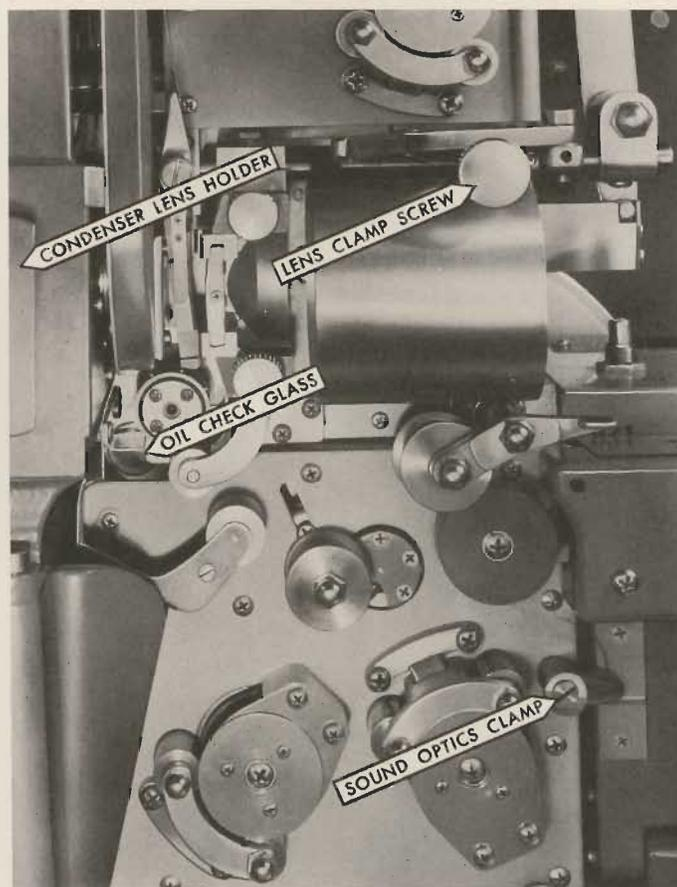
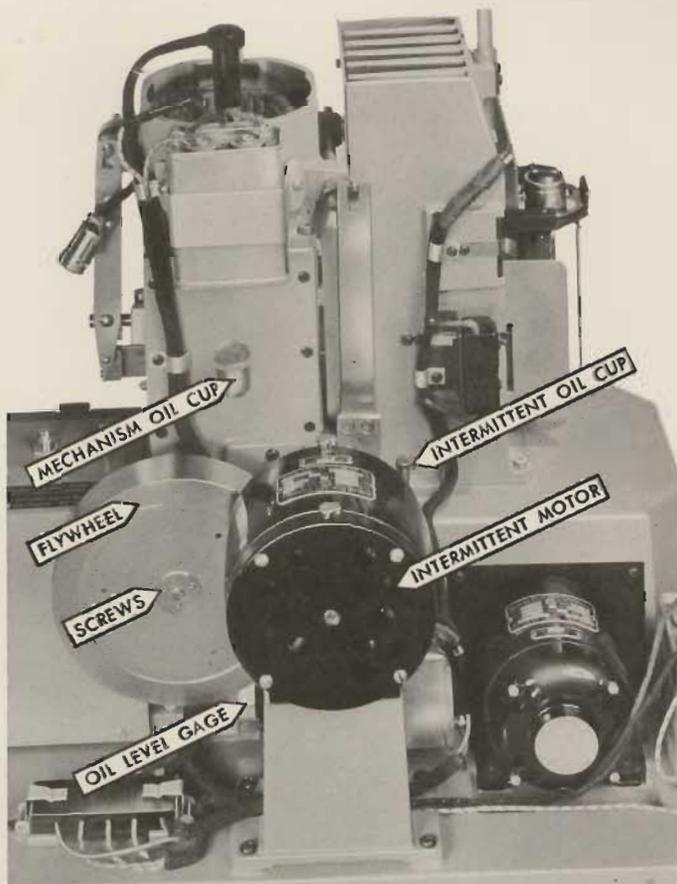

FIGURE 9
FIGURE 10
1. Loosen the LENS CLAMP SCREW, figure 9, and insert the lens in the clamp as far as it will go.
LENS HOLDER, figure 9, in the opening behind the gate.
3. Remove the three screws from the hub of the FLYWHEEL, figure 10.
Fill the MECHANISM OIL CUP, figure 10, with the *special* oil until the oil level reaches approximately halfway up the glass tube marked OIL LEVEL GAGE. Approximately 1/3 pint will be required.
Check the oil level of the intermittent by means of the OIL CHECK GLASS, figure 9. If the oil level does not cover half the window, raise the cap and add oil to the INTERMITTENT OIL CUP, figure 10.